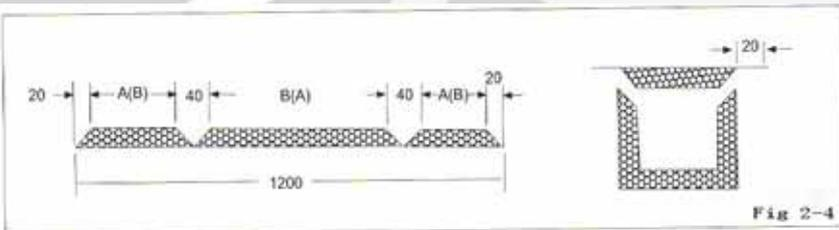

Fig 2-4
b. technique(2): the length of 3 sides  $2A+B \leq 1080$  or  $A+2B \leq 1080$ , the duct can be made by applying U shape and covered with a panel by lengthways cutting.(Fig 2-4)